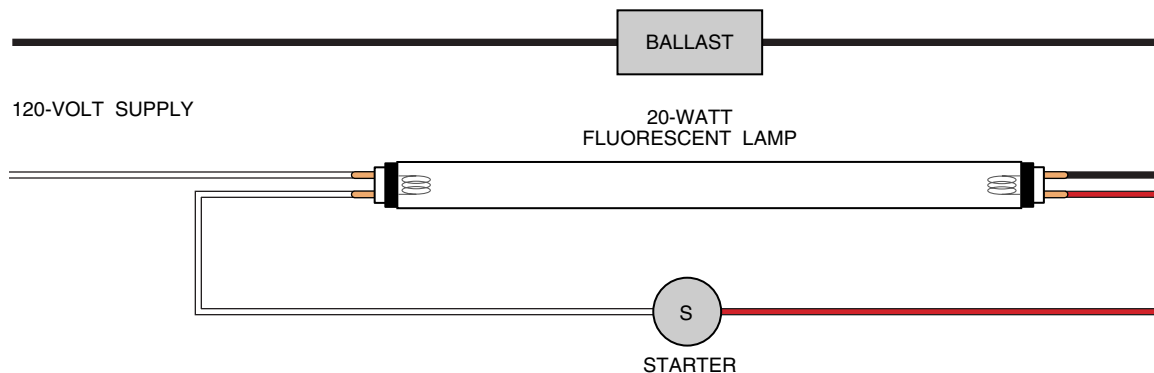

Figure 7-11 Simple series circuit.
Fluorescent lamps do not have a filament running from end to end. Instead, they have a filament at each end. The filaments are connected to a ballast, as in Figure 7-11. The ballast is needed to (1) control power, (2) control voltage to heat the filaments, (3) control voltage across the lamp to start the arc within the tube, and (4) limit the current flowing through the lamp. The arc is needed to ionize the gas and vaporize the droplets of mercury inside the lamp.
Preheat. Preheat ballasts are connected in a simple series circuit, Figure 7-11. They are easily identified because they have a “starter.” One type of